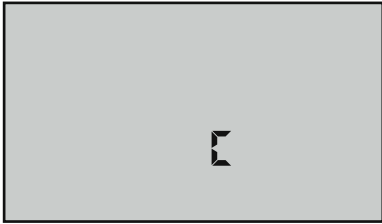

Figure 17
- Press  repeatedly until you pass the “US” or “Int” date format location. The display will show a “C” or “F” (see Figures 17 and 18).